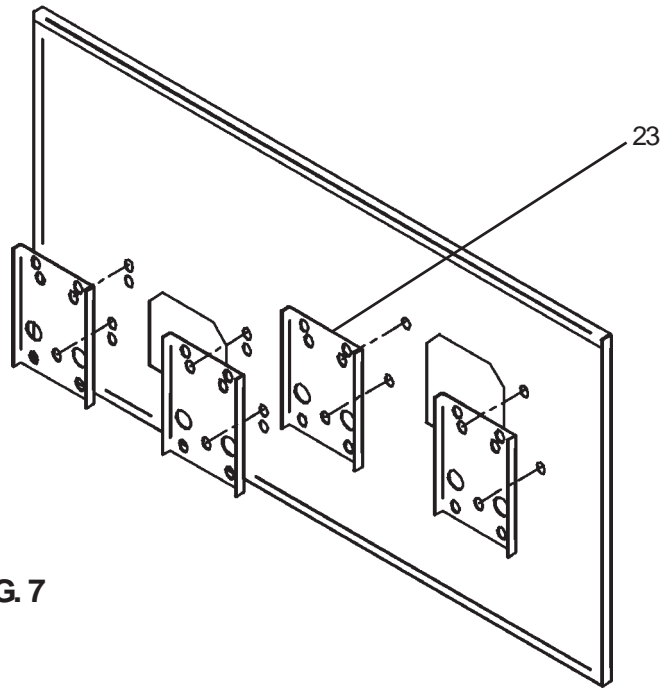

FIG. 7
**Installing back panel:** When installing back panel without mounting plate accessory, attach (4) channel braces as shown in Fig. 7. Remove the protective backing from the tape installed on the brace. Line up the corresponding holes in the brace and back panel and press firmly in place.